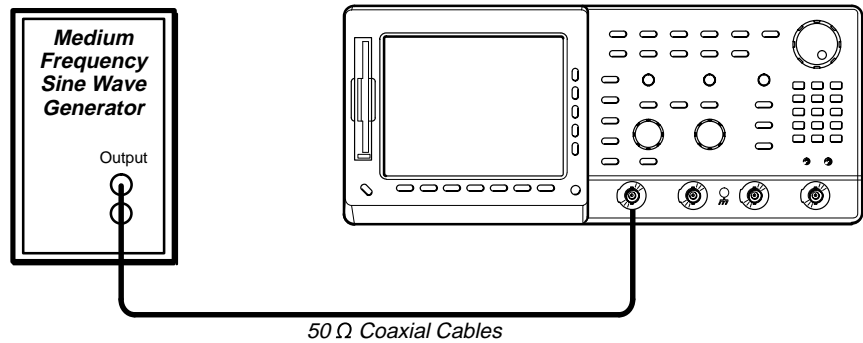

Figure 1-18: Initial Test Hookup—TDS 520A or 524A Only
- TDS 520A, 524A only: Connect, through a 50 Ω precision coaxial cable, the signal output of a medium-frequency sine wave generator to **CH 1**. See Figure 1-18.